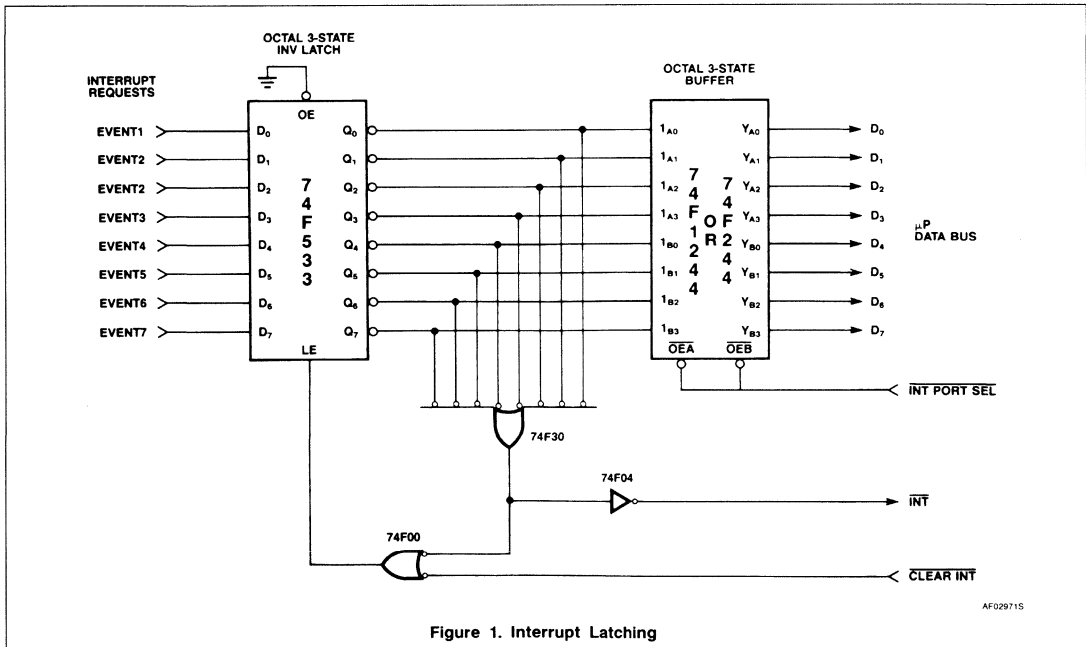

Figure 1. Interrupt Latching
Figure 1 shows a circuit that captures asynchronous events and generates an interrupt to the microprocessor. The 74F533 inverting octal latch is used to "freeze" the state of the interrupt inputs. This is necessary to catch short interrupt request pulses. When all interrupt requests are inactive, the latch enable (LE) input of the 74F533 is asserted. When any request is asserted, the interrupt signal to the microprocessor ( $\overline{\text{INT}}$ ) is asserted and the latch is disabled. Thus, the state of the interrupt inputs is latched.